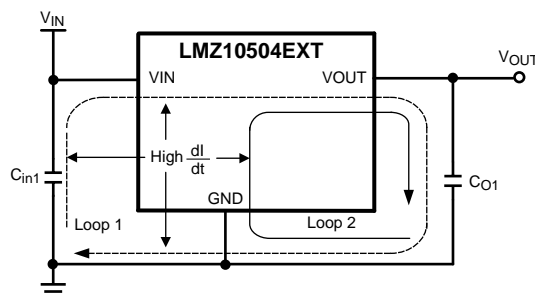

Figure 18. High Current Loops
From an EMI reduction standpoint, it is imperative to minimize the high di/dt current paths. The high current that does not overlap contains high di/dt , see Figure 18. Therefore physically place input capacitor (C_{in1}) as close as possible to the LMZ10504EXT VIN pin and GND exposed pad to avoid observable high frequency noise on the output pin. This will minimize the high di/dt area and reduce radiated EMI. Additionally, grounding for both the input and output capacitor should consist of a localized top side plane that connects to the GND exposed pad (EP).